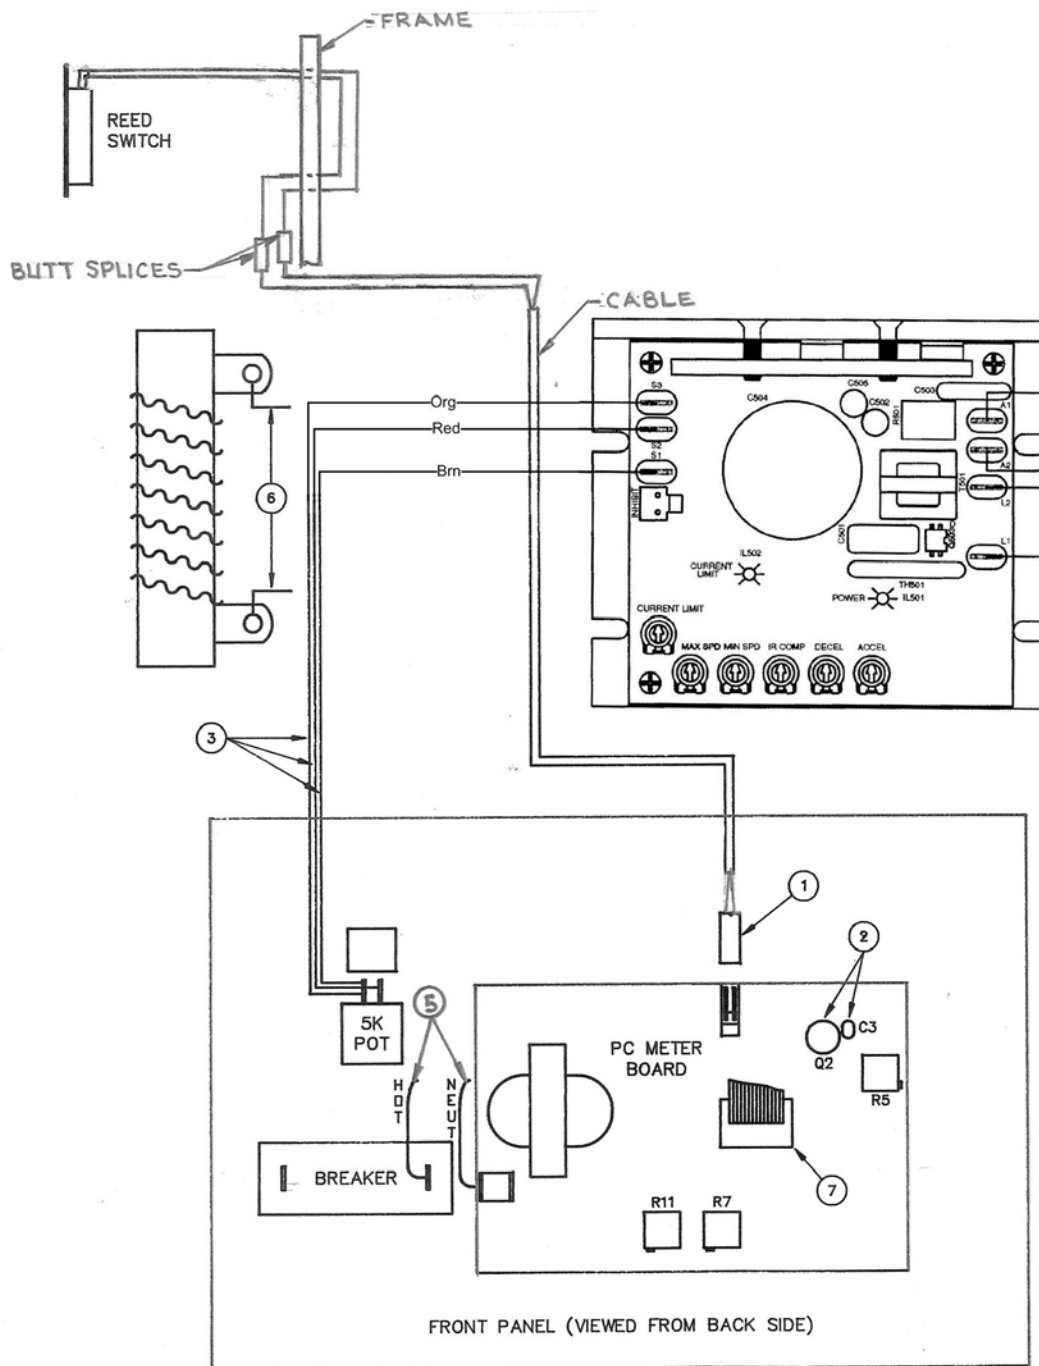

Figure 7 – Electric Controls
7.6.2.2 Locate PC board potentiometer R5 (Fig. 7) and adjust meter to 1000 RPM. If speed will not reach 1000 RPM, turn "MAX" (Fig. 7) potentiometer on motor control until 1050 RPM is attained with speed control full clockwise, then adjust control to 1000 RPM.
7.6.2.3 Turn outer panel speed control knob all the way counterclockwise. Adjust motor controller potentiometer labeled "MIN" (Fig. 7) until panel meter reads 40-50 RPM. Turn panel speed control knob all the way clockwise and read 1025-1050 RPM. Repeat adjustments if necessary.
- 7.6.3.4 Turn Panel meter switch to "torque" position, and turn speed control to far counterclockwise and torque zero knob to mid-range. Turn the machine on. Adjust torque zero pot R7 (Refer to Fig. 7) to zero on meter.
- 7.6.3.6 Adjust PC meter board potentiometer R11 to 41.0-41.5 units of torque on meter. Refer to Fig. 7.
- 7.6.3.7 Release prony brake by removing weight and/or loosening bolts and adjust zero potentiometer on meter board so that meter in torque mode reads zero. Refer to Fig. 7.
LOSS OF RPM READING	<ol style="list-style-type: none">1. Make sure reed switch connector is plugged in to circuit board header.2. Check the Reed switch function (sensing bar magnets on main shaft). Signal may not be reaching circuit board at connector (1) Fig. 7. Place Ohm meter lead in receptacle (1) from switch and turn shaft magnets past switch and note meter go low and high on ohms reading. If no switching, adjust bracket by bending or move bracket to respond to magnet movement.3. If switch is switching, and signal is entering circuit board, measure on base of Q₂. If the emitter of Q₂ is not sending signal to C₃, then replace Q₂.
LOSS OF SPEED CONTROL	<ol style="list-style-type: none">1. Check the 5K pot leads (3) Fig. 7 to motor control board.2. Check SCR's (4) Fig. 7 on motor control board.